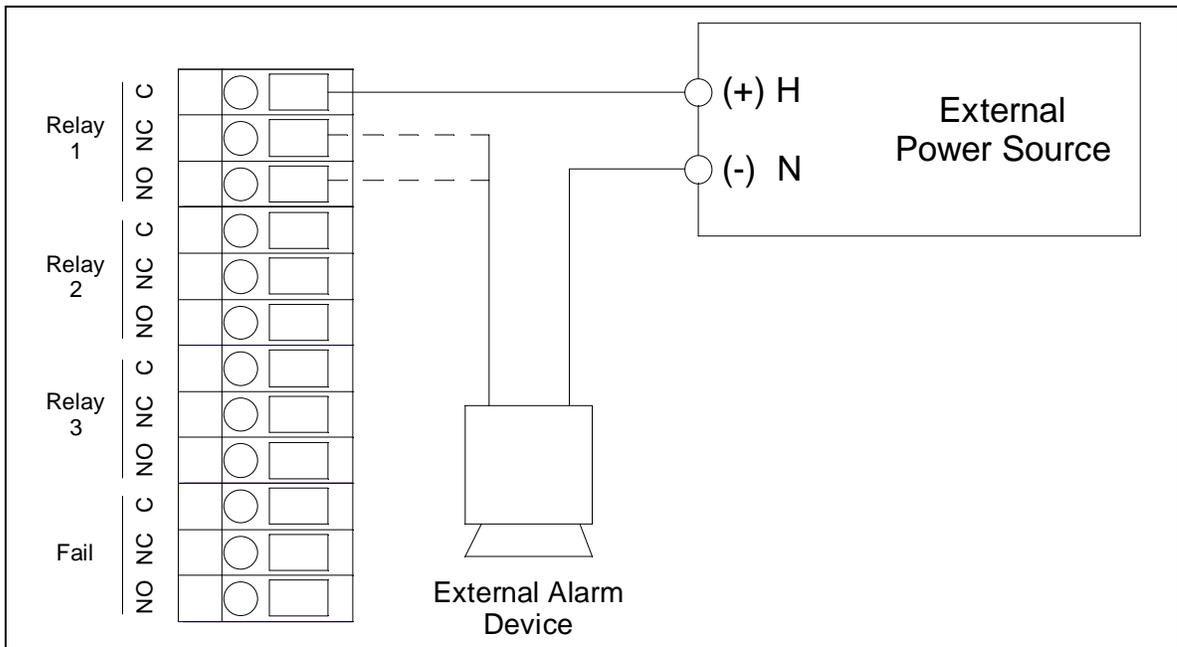

Figure 25: Wiring to the Main and Fail Relays
- Connect the leads from the external alarm device and an external power source to the selected main or fail relay terminals as shown in Figure 25.